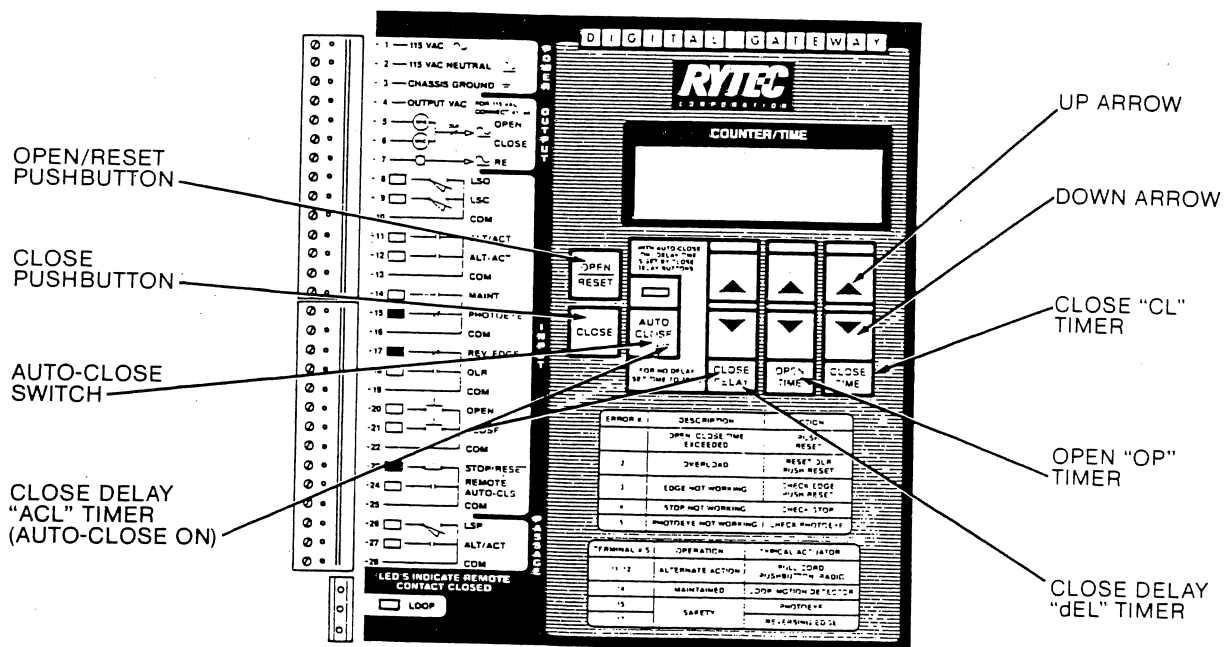

Figure 8.
3. EXPLANATION OF DIGITAL GATEWAY® CONTROLS (see Figure 8)